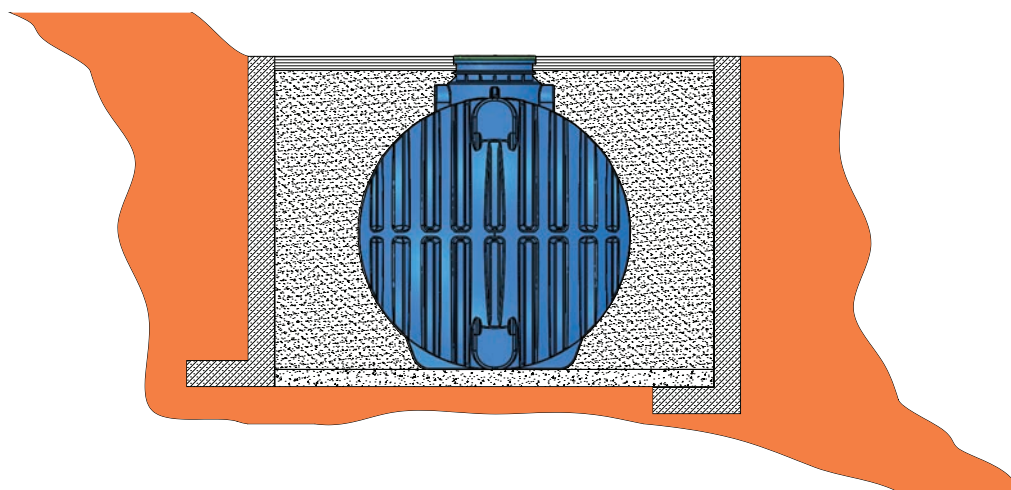

Figure 14: Installation in unstable areas
If installation is planned in an unstable area, installation conditions must be ensured in such a way that the product is not affected by soil pressure or soil creep. This is achieved by constructing appropriate reinforced-concrete (RC) retaining walls (Figure 14). The dimensions of the retaining wall, the amount of reinforcement, and the required drainage must be determined by an authorized structural engineer.